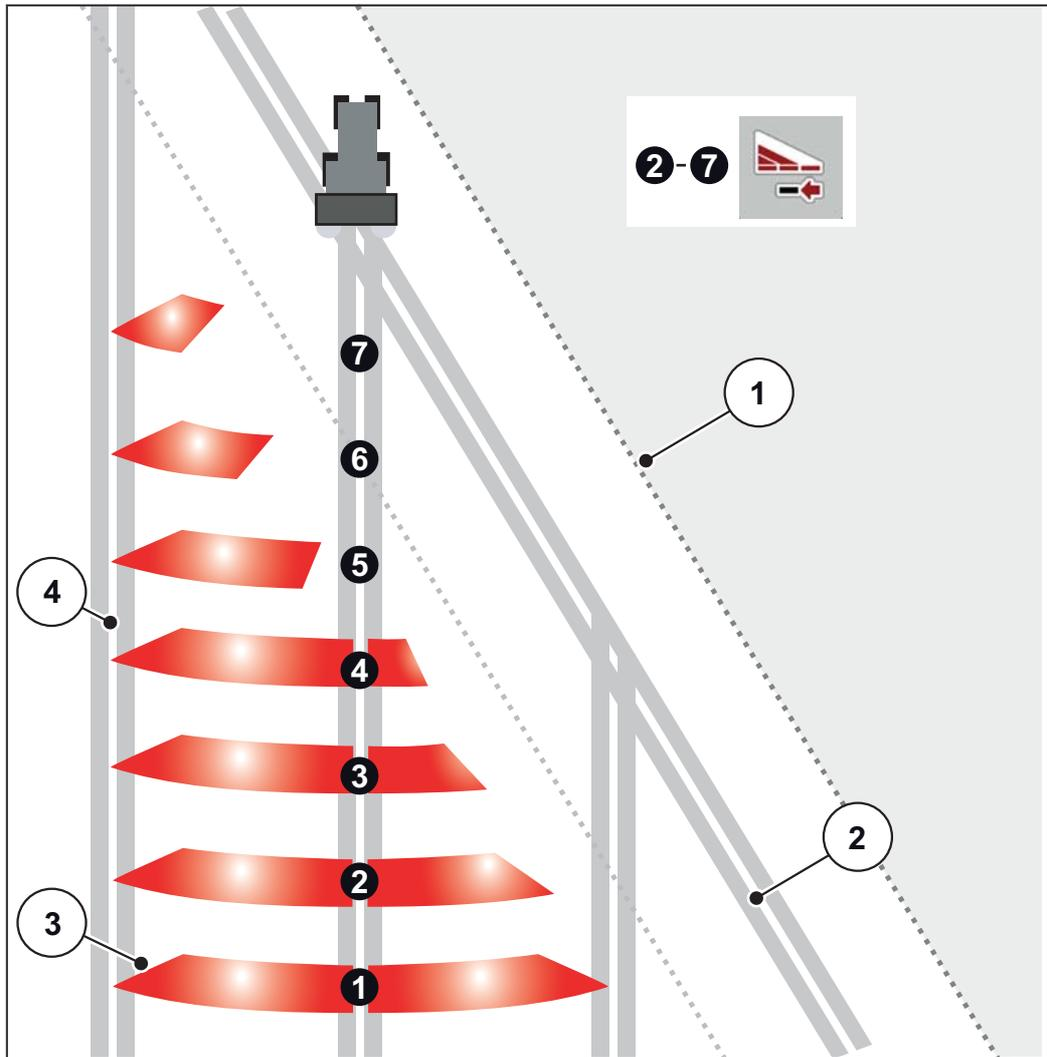

Figure 5.4: Automatic section control
- **AXIS.2 only:** Section control is possible from the outside to the inside or vice versa. See Figure 5.4.